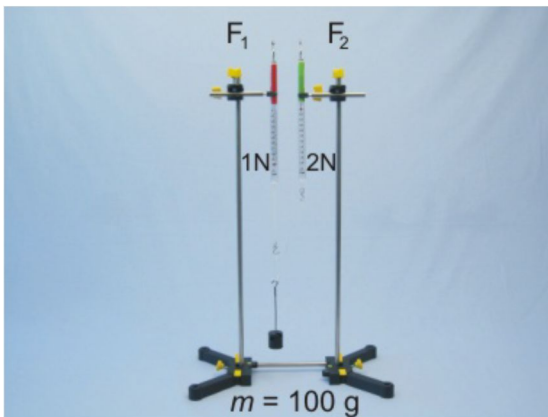

Fig. 12
- Hang the weight holder on the lower loops of the two pieces of fish line and place mass pieces on it until the total mass is  $m = 100$  g. The longer piece attached to the 2 N spring balance must not be taut (Fig. 12).